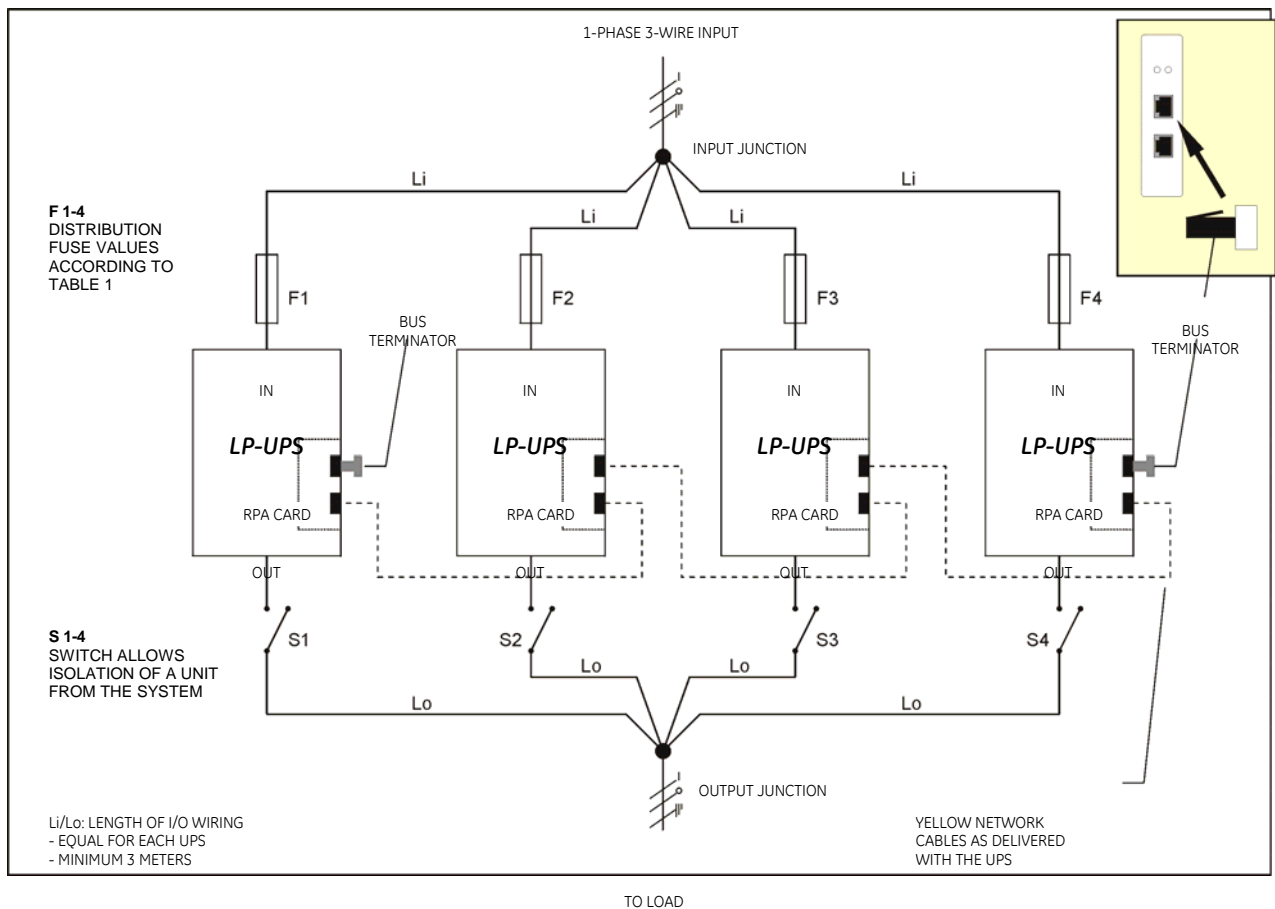

Figure 10. Installation of parallel operating LP 11 UPSs
2. All outputs must be connected together, supplying the load. It is advised to install switches (S 1-4, fig. 10) in the output wiring, in order to be able to isolate a unit from the remaining system for service and maintenance purposes. It is advised to make a Neutral-to-Ground bounding in the output junction.
4. The length of all input cables from the input junction (Li, fig. 10) to the UPS inputs should be equal. The same applies to the cables from the outputs to the output junction (Lo, fig. 10). The minimum length of the input as well as the output cables is 3 meters.
7. Interconnect the RPA-cards of the units, using the network cable that came with the UPS. See figure 10 (dotted line). Only use the cables that were delivered with the UPSs! Of the first and the last UPS in the system only one RPA-socket is used to interconnect the UPSs. A bus terminator must be placed in the other (free) RPA-socket. The required bus terminators have been delivered with the unit.
2. Remove the installation fuse from the input of that UPS (F1-4 in figure 10),
3. Separate the output of the UPS from the output junction (S1-4 in figure 10).